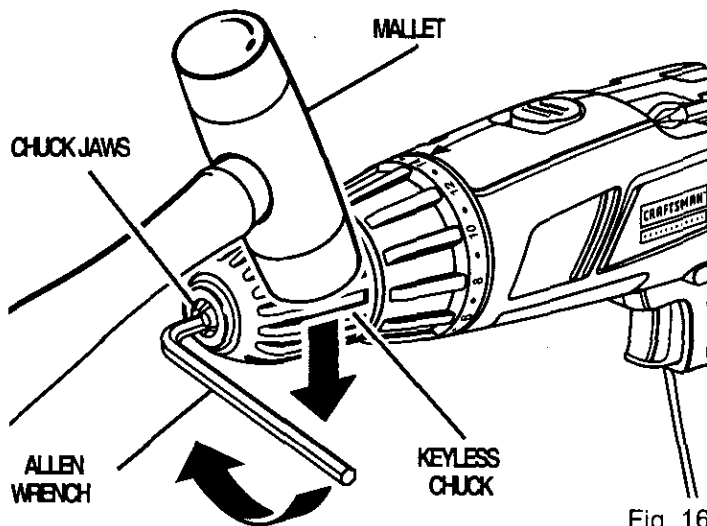

Fig. 16
See Figures 16, 17, and 18.
- Tap the allen wrench sharply with a mallet in a clockwise direction. See Figure 16. This will loosen the screw in the chuck for easy removal.